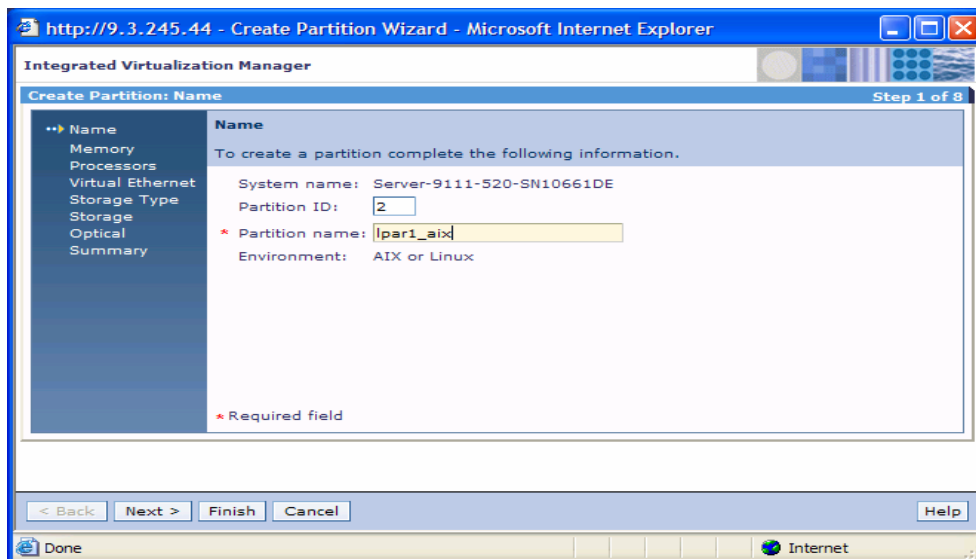

Figure 49. Entering the partition ID and the partition name
2. Click **Start Wizard** and you are presented with the screen shown in Figure 49.